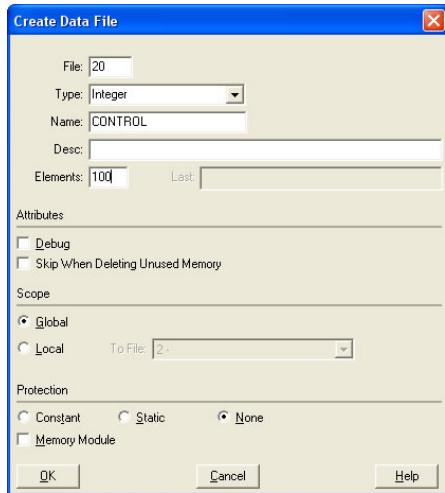

Figure 111: Creating a Control File
- a) Right click Data Files and select New... The "Create Data File" dialog box appears (refer to Figure 111).